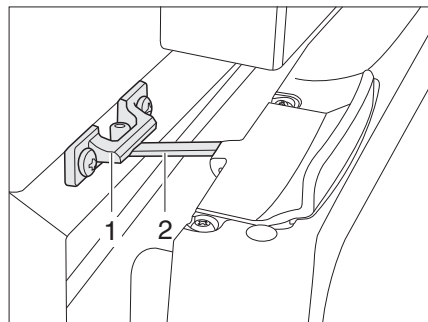

Fig. 134 Refrigerator door in ventilation position (Thetford)
■ Open the lock (Fig. 134,2) and snap it into the locking catch (Fig. 134,1). The refrigerator door will then stay slightly open.